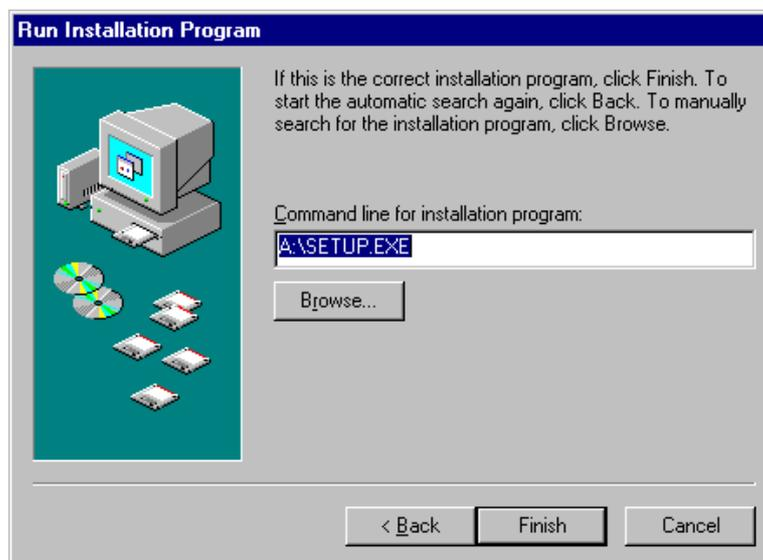

Fig. 9.5 [Run Installation Program]
- (4) Insert the [SETUP Disk] disk into the floppy disk drive. Click the <Next> button in the window shown in Fig. 9.4. The window shown in Fig. 9.5 appears.